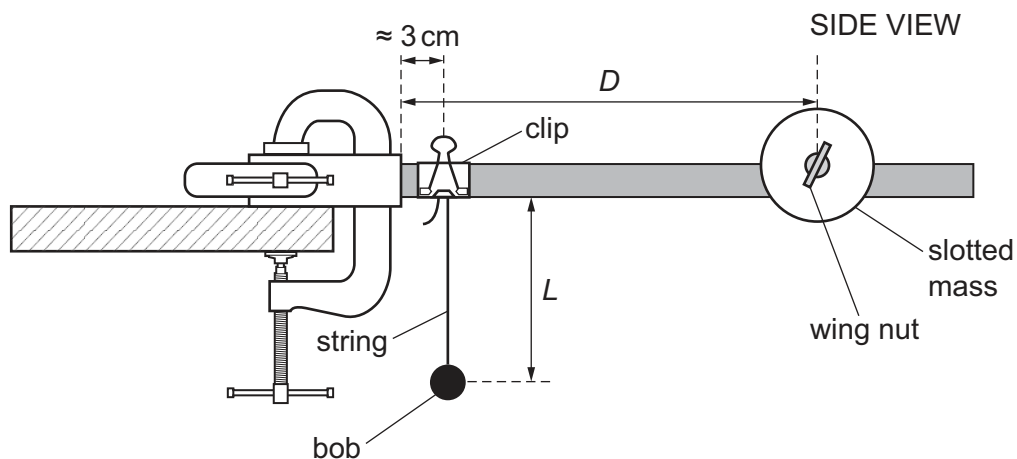

Figure 2.4
- The distance between the bottom of the hacksaw blade and the centre of the pendulum bob is  $L$  as shown in Figure 2.4.
- Adjust the string so that  $L$  is approximately 4 cm. Secure the string with the clip, as shown in Figure 2.4.
- The distance between the centre of the masses and the wooden blocks is  $D$ , as shown in Figure 2.4.